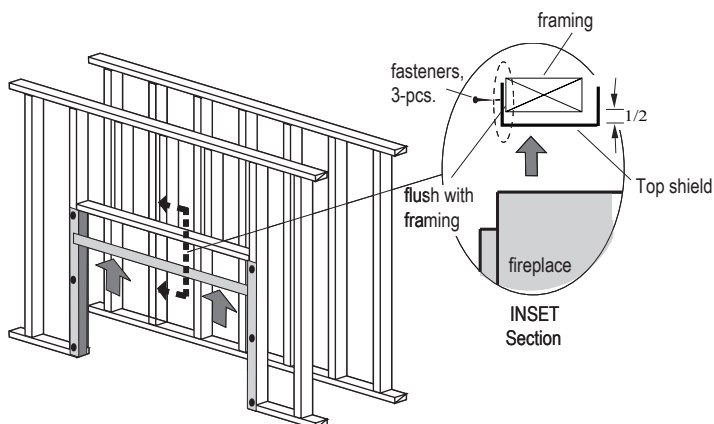

Figure 8a. Combustible Framing Top Heat Shield L52FS02x1, (one 1-pc).
Step 2. Next, fasten the Top shield (L52FS02x1), with the Wide flange face up, and the shallow flange toward inside of room, Figure 8a.